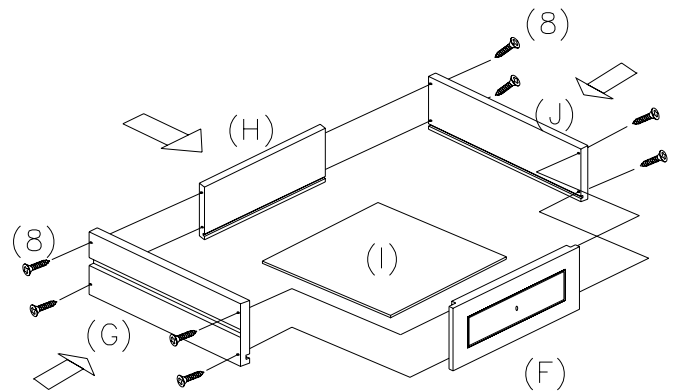

FIGURE 2
- INSERT MEDIUM FLAT HEAD WOOD SCREWS ($\text{\O}3\text{X}15\text{mm}$) (8) THROUGH PREDRILLED HOLES ON OUTSIDE OF DRAWER RIGHT PANEL (J) AND TIGHTEN INTO PREDRILLED HOLES ON ENDS OF DRAWER FRONT PANEL (F) AND DRAWER BACK PANEL (H). SLIDE DRAWER BOTTOM PANEL (I) INTO GROOVES ON DRAWER FRONT PANEL (F) AND DRAWER BACK PANEL (H) AND ALIGN WITH GROOVE ON DRAWER RIGHT PANEL (J). ASSEMBLE DRAWER LEFT PANEL (G) IN SAME MANNER. (AS SHOWN IN FIGURE 2)